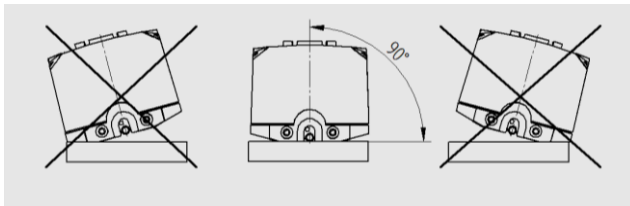
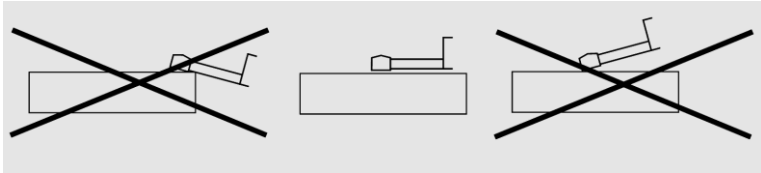

Figure 2-1 Front View
Figure 2-2 Side View
- Refer to Figure 2-1 and Figure 2-2 to place the instrument correctly, stably and reliably on the surface to be measured;